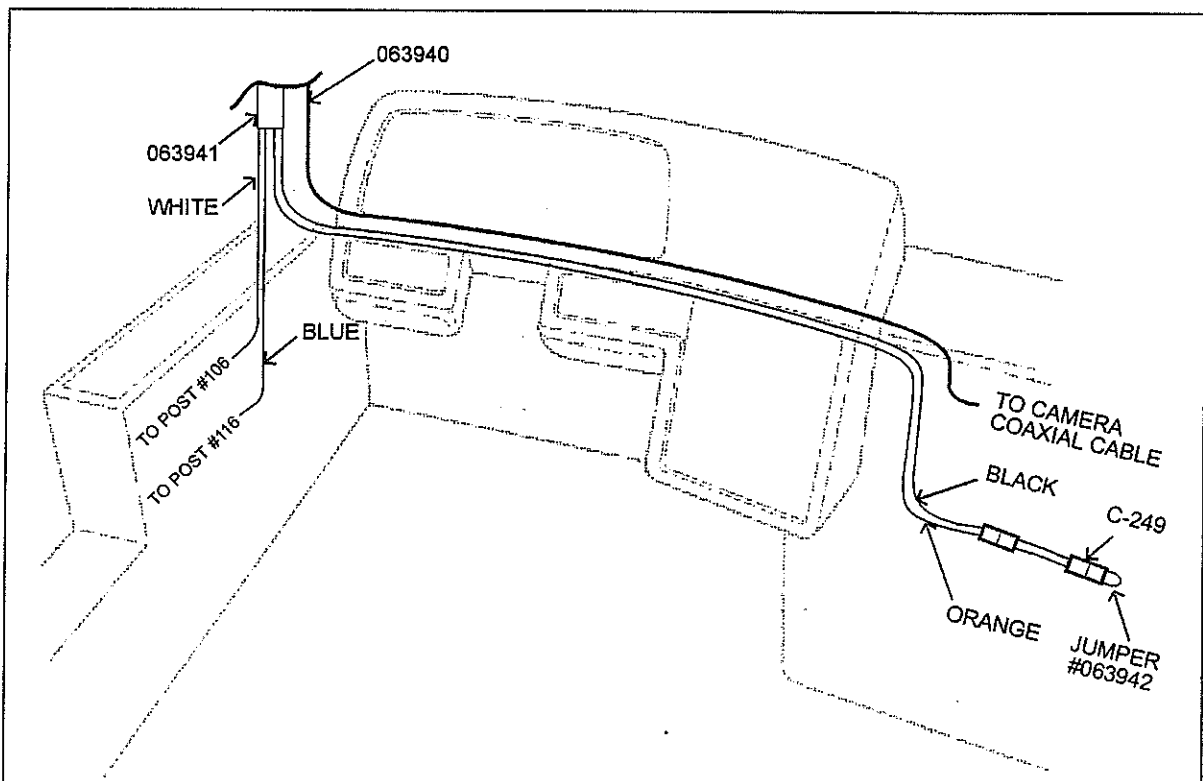

FIGURE 1
5. Remove and discard L.H. post's moulded plastic trim; remove and discard wiring harness #063437 then replace with both cable #063940 plus the black and orange wires of wiring harness #063941 (see fig. 1). Fasten cable and wires at different locations using cable ties (not included in kit).